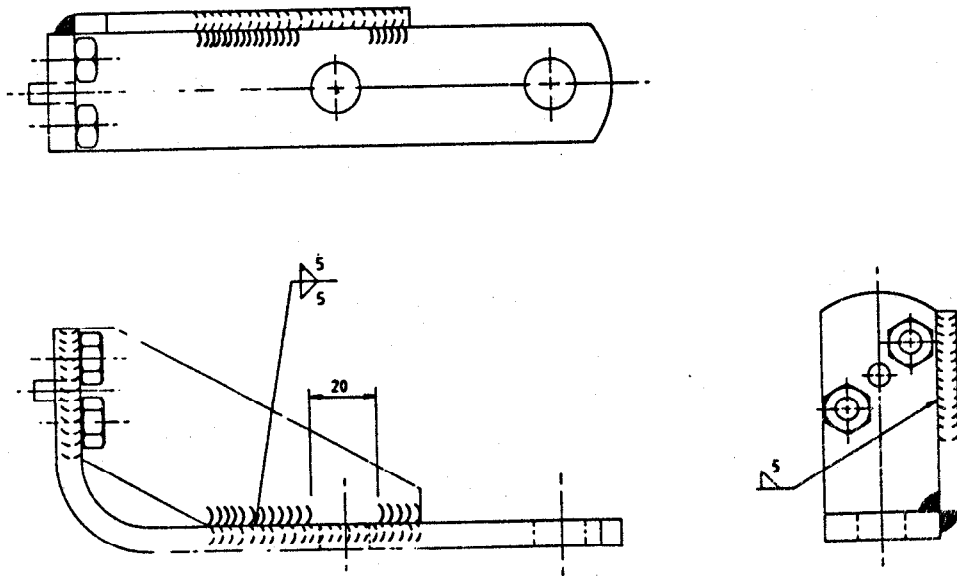

FIG 1 - BASIC BRACKET WELDING
- a. Inspect the bracket for cracks and that all welding conforms to Fig 1.